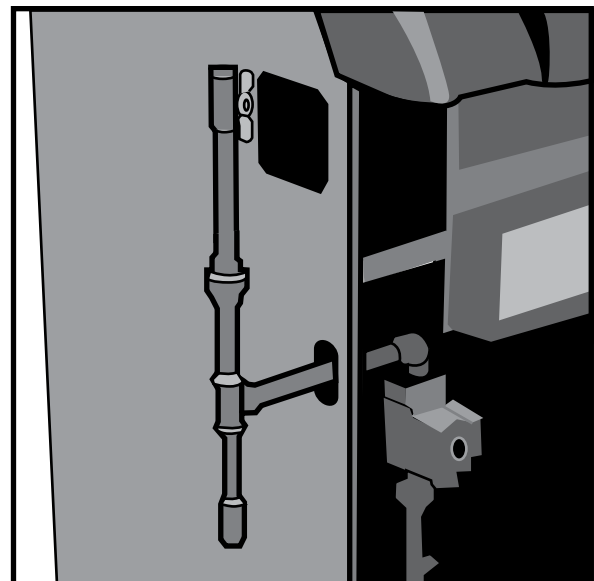

Figure 5-a
jacket panel (Figure 5-a). In Canada, close nipples and street ells are not approved for use as gas piping.
3. Pipe through the left jacket panel, and complete drip leg as shown (Figure 5-a).